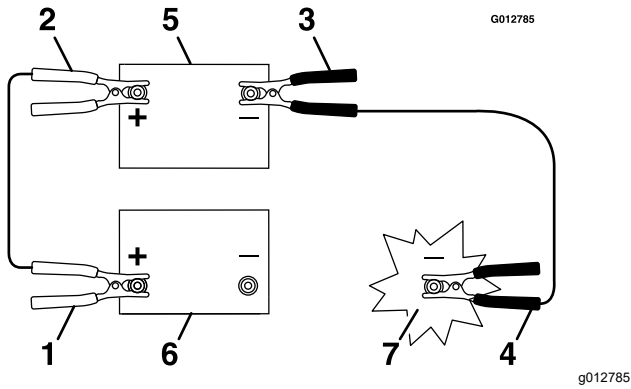

Figure 54
3. Connect the positive (+) cable to the positive (+) terminal of the discharged battery that is wired to the starter or solenoid (Figure 54).